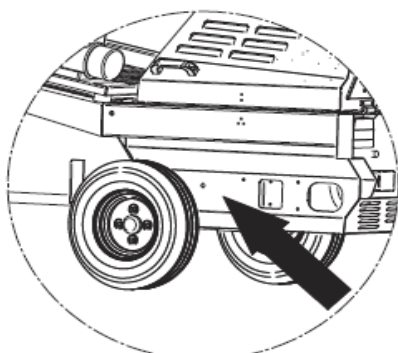

FIG 12
- Lubricate with grease daily via the hole in figure 12